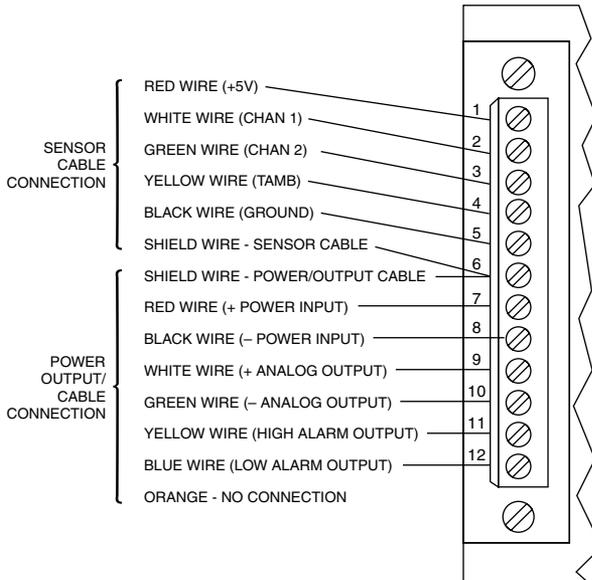
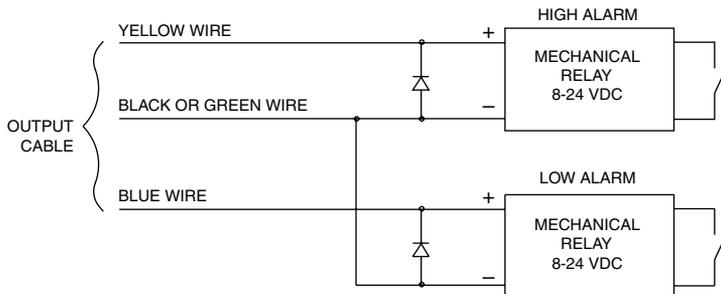

Figure 3-2. OS550A-BB Wire Connection
Figure 3-3.
2. The optical field of view of the thermometers sensor head should fall within the area of the target being measured. See Figure 3-2. Figures 3-3 through 3-8 show the fields of view vs. distance for the various thermometers.